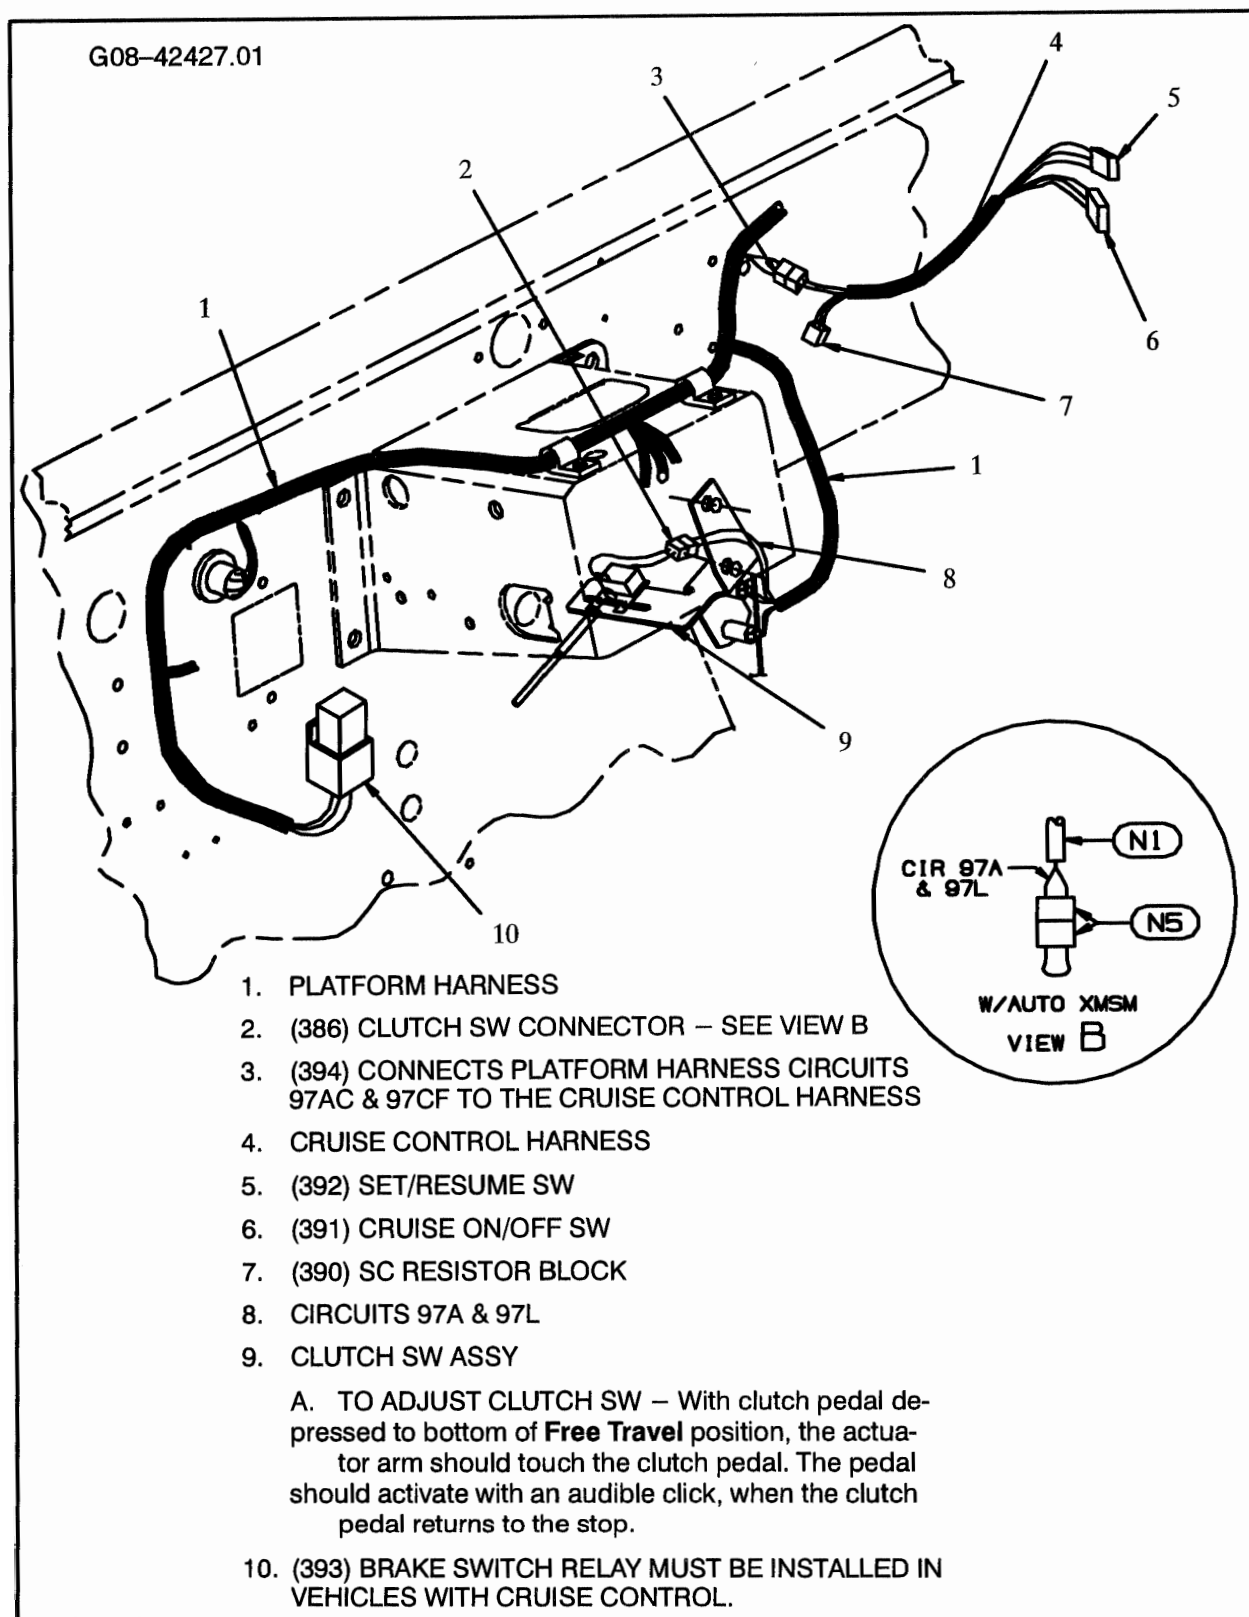

Figure 7.43 – Cruise Control Wiring
| 8. (394) CRUISE CONTROL CONNECTOR (NOT SHOWN IN MOUNTED POSITION) – SEE FIGURE 7.43 | 24. (17) DIMMER SWITCH CONNECTOR |